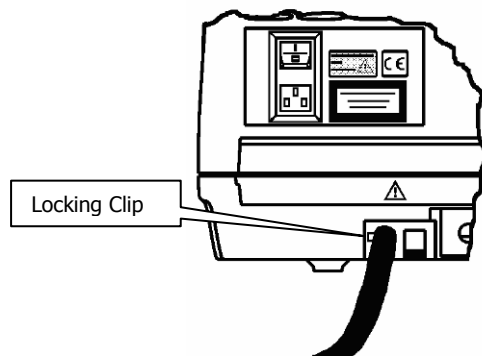

Figure 25 Disconnect the locking clip
7. Disconnect the fitting from the instrument by pushing the locking clip located on the side of the purging port (Figure 25).